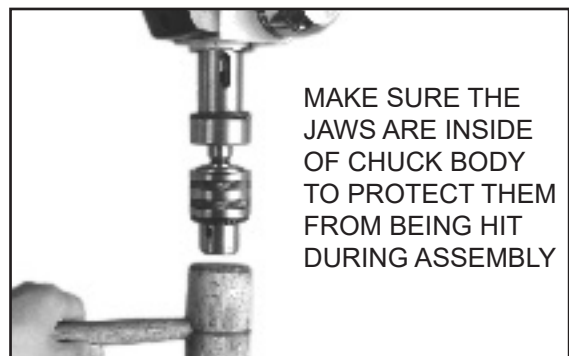

Figure 13
4. Using a mallet or wood and hammer, drive the chuck and arbor assembly into the spindle. This will properly seat the chuck assembly on the spindle. (Fig. 13)